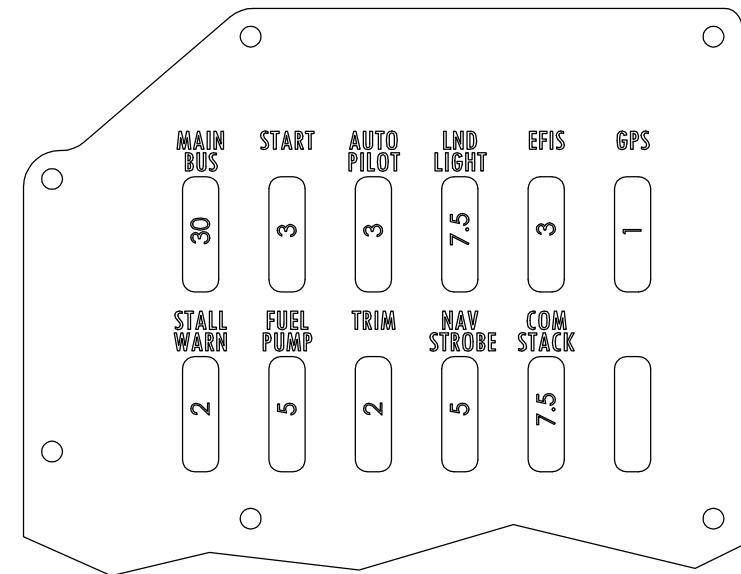

FIGURE 3: INSERTING FUSES INTO THE AV CONTROL BOARD 12
Step 7: Install fuses into the AV CONTROL BOARD 12 as shown in Figure 3.